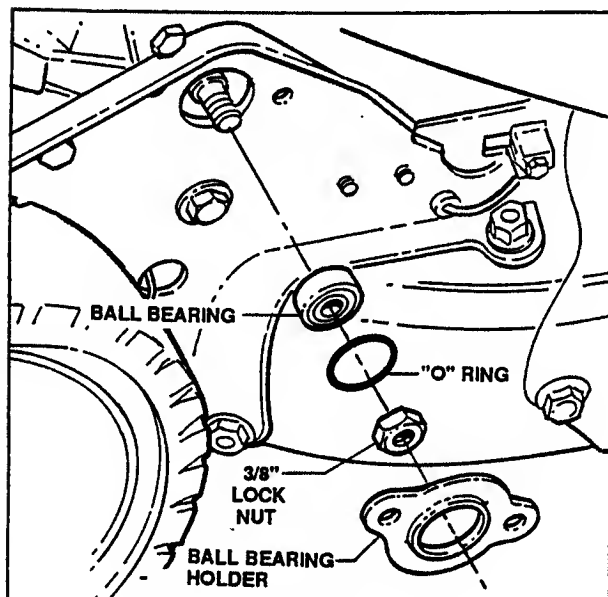

FIGURE 3.19
2. Remove the 3/8" hex lock nut which is located on the outside of the right wheel bracket. See Figure 3.19.